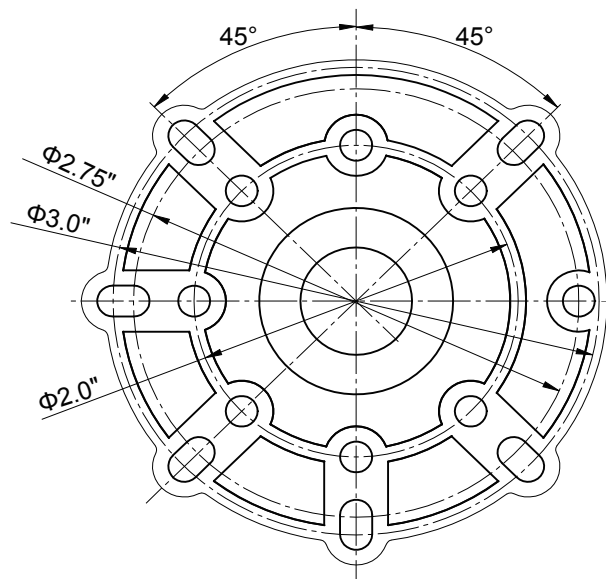

Fig. 2
1. Open connection box, mount luminaire to wall by drilling (2) holes on the junction box as Fig.2 shown.